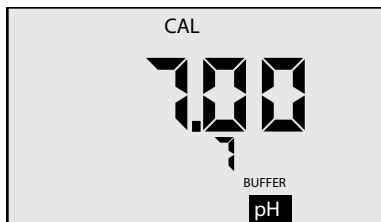

Figure 5
4. Press  to enter calibration mode. The “CAL”, “BUFFER” and “7” annunciators will appear (see Figure 5). Displayed value will be the uncalibrated sensor.